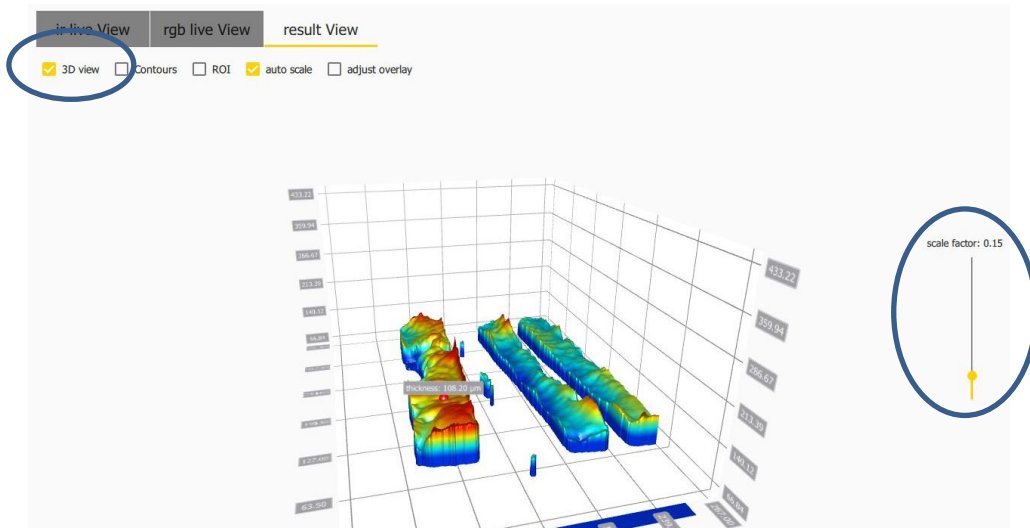

Figure 36 3D view
- Select the *ROI* button (see Figure 36) and click on the *ADD ROI* button.